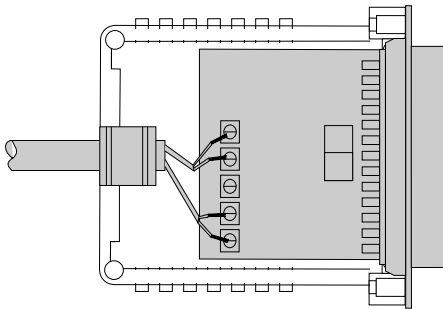

Figure 10: Positioning the Model 1000 Inside the Plastic Case
9. Insert the strain relief assembly with the wire going through it into the slot in the bottom half of the modem case and set it into the recess in the case (see Figure 10, below).